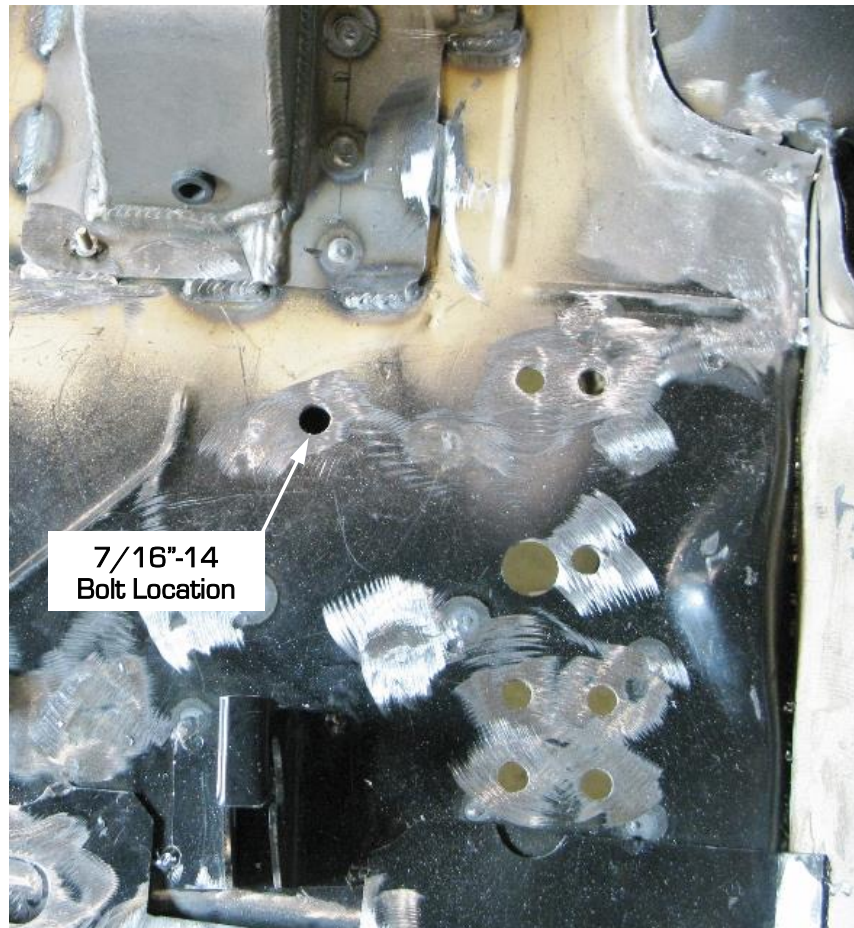

Figure 7 - Drill Remaining Holes
19. Remove the DSE pocket assemblies and floor pan doublers. Drill the six holes for the provided 3/8"-16 bolts. There is also one hole location that needs to be drilled for the provided 7/16"-14 bolt (Figure 7).